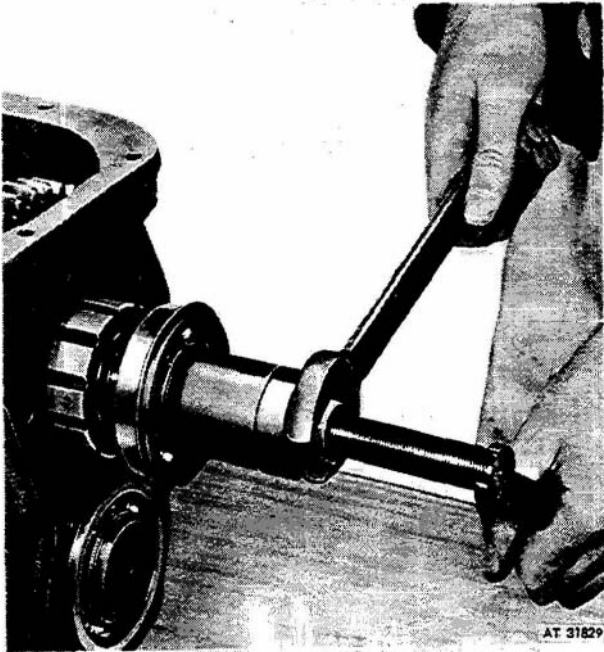

Figure 3-33. Pressing on **mainshaft** rear bearing.
(14) Install bearing locating snap ring (20) in groove diameter of outer race of mainshaft rear bearing (19).
(15) Press mainshaft rear bearing (19) onto mainshaft assembly (17), position so that locating ring is toward rear end of main shaft (fig 3-33).